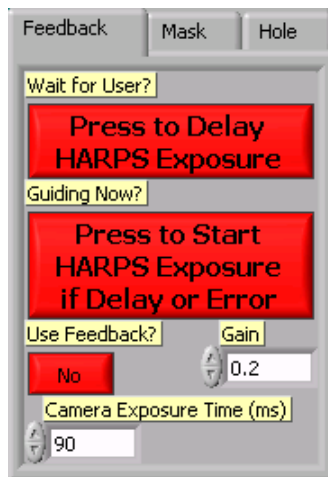

Figure 11 - Feedback panel
- 1) When the guide begins to show images and before that the exposure start, the operator has to freeze the starting of autoguider by clicking on the “**Press to Delay HARPS Exposure**” button of the Feedback menu in the **HARPS-N Autoguider** window (Figure 11).
- 6) Selects the **Feedback** menu and click on the “**Press to Start Harps exposure if delay or Error**” button (Figure 11).